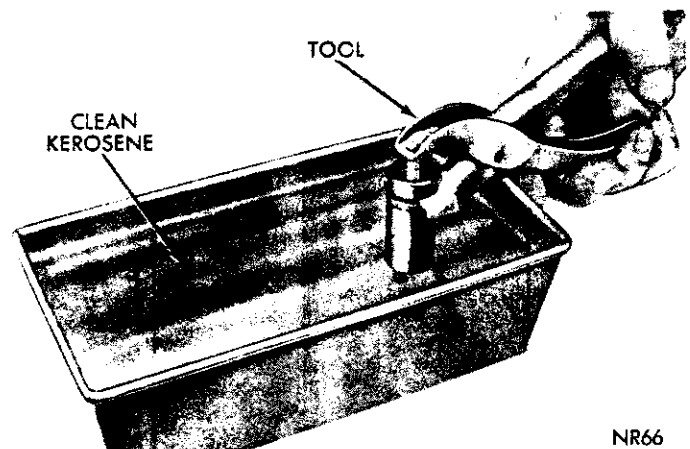

Fig. 18—Testing Tappet Using Tool C-3160
- (1) Fill a pan with clean kerosene.
- (2) Remove cap from plunger and plunger from tappet body.
- (3) Fill tappet body with kerosene and install plunger.
- (4) Unseat check valve with a brass rod to permit complete installation of plunger. Replace cap.
- (5) Hold tappet in an upright position and insert lower jaw of pliers, Tool C-3160, in the groove of tappet body (Fig. 18).
- (6) Engage jaw of pliers with top of tappet plunger. Test leakdown by compressing the pliers. If plunger collapses almost instantly as pressure is applied, dis-
assemble tappet, clean and test again (Fig. 18).